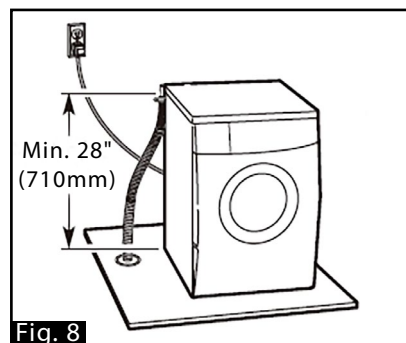

Fig. 8
3. FLOOR DRAIN SYSTEM (FIG. 8):